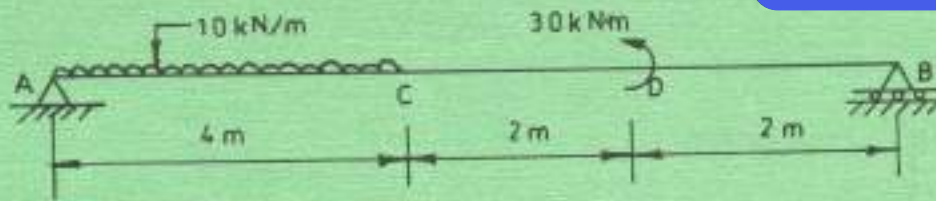

Fig. 5
- (b) Figure 5 shows a loaded beam which is simply supported.